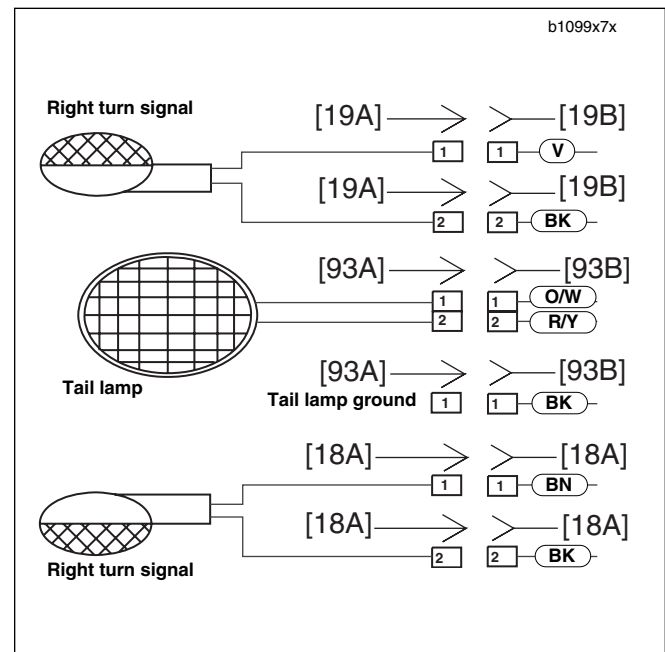

Figure 7-53. Rear Turn Signal Connections
3. See Figure 7-53. Disconnect bullet connectors on turn signal wires.
1. Insert bullet connectors through license plate bracket (4) and tail section.
4. Attach bullet connectors on turn signal wires as shown in Figure 7-53.